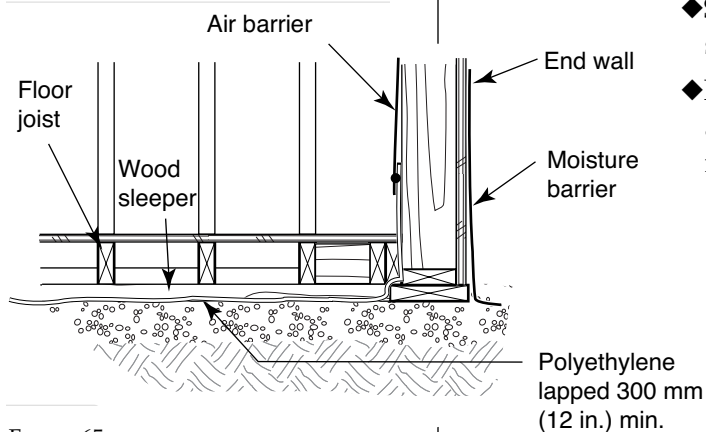

FIGURE 65
- ◆ With a suspended wood floor or wood sleeper floor, provide polyethylene as damp-proofing and for soil-gas control. The polyethylene should be lapped a minimum of 300 mm (12 in.) and extended up the foundation walls to be sealed to the wall air barrier (see Figure 65).